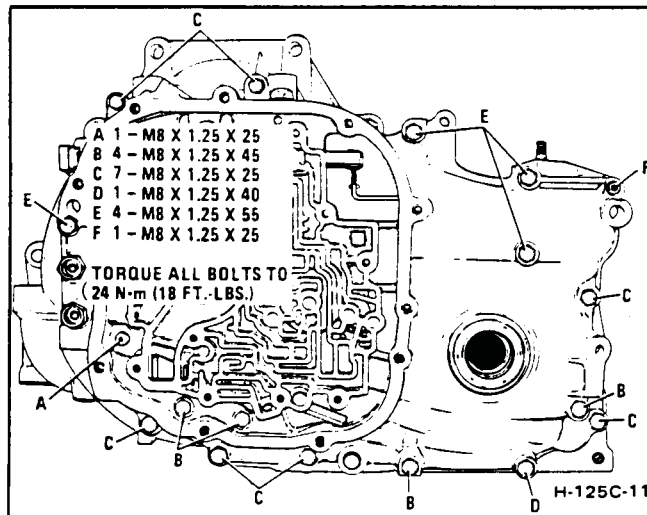

Figure 84A
- Loctite ® 515 or equivalent on both sides of gasket (416)
- Gasket (416) to case cover
- Case cover (401) to case
- Coat bolt (A) with thread sealer (Figure 84A).